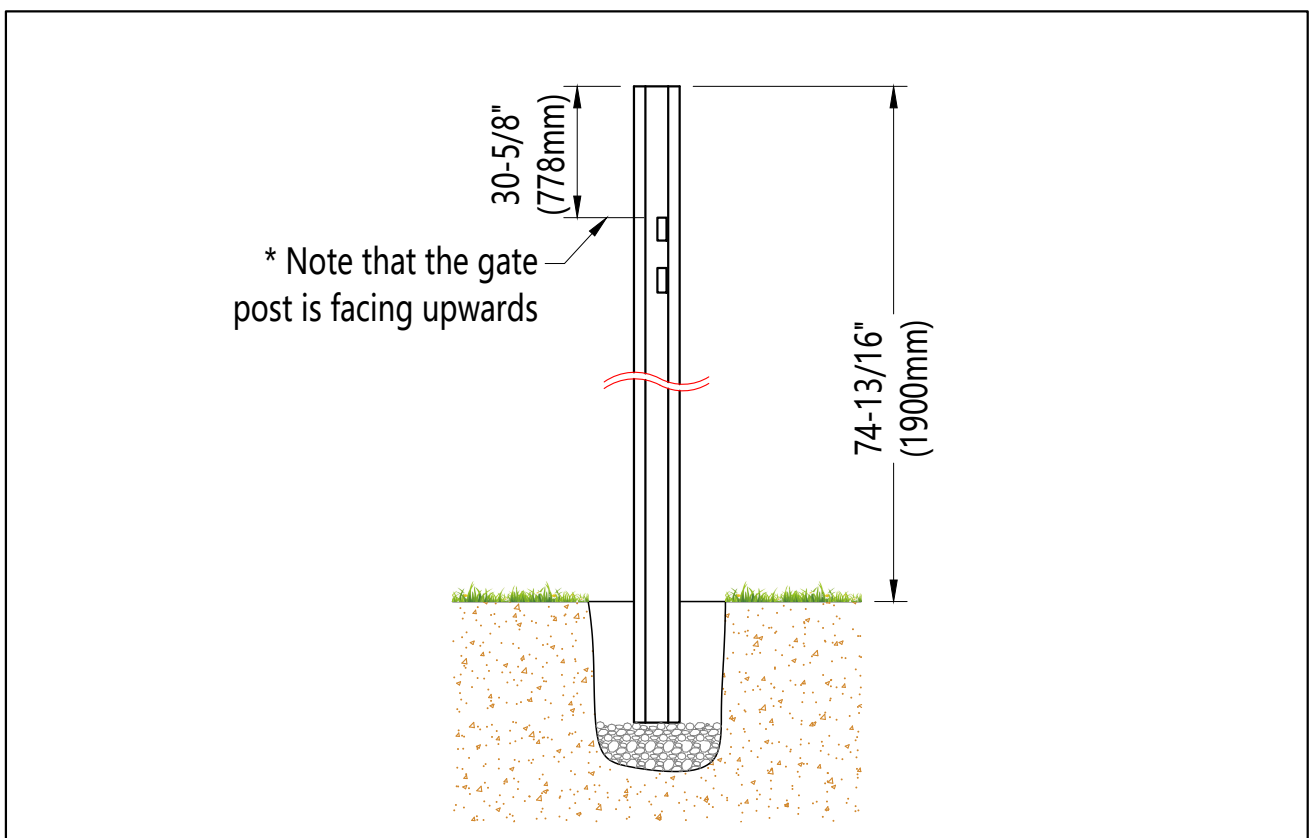

Figure 5.1
- 5 Place the gate posts in the middle of the gravel and ensure they are plumb. The distance from the post top and the ground should be 74-13/16" (1900 mm), as shown in Figure 5.1.